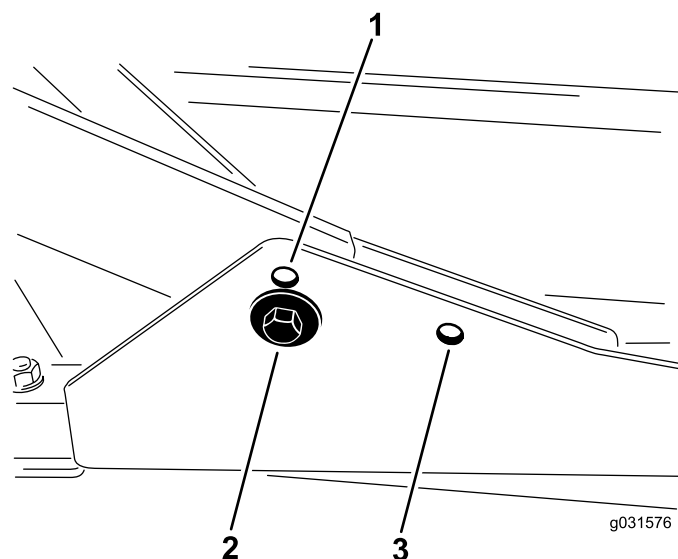

Figure 16
1. For heights of cut in the 2 to 7.6 cm (3/4 to 3 inches) range, mount the front carrier frames in the lower, front mounting holes (Figure 16).
2. For heights of cut in the 6.3 to 10 cm (2-1/2 to 4 inches) range, mount the front carrier frames in the upper, front mounting holes (Figure 16).
For all heights of cut, mount the rear cutting deck in the rear mounting holes (Figure 16).